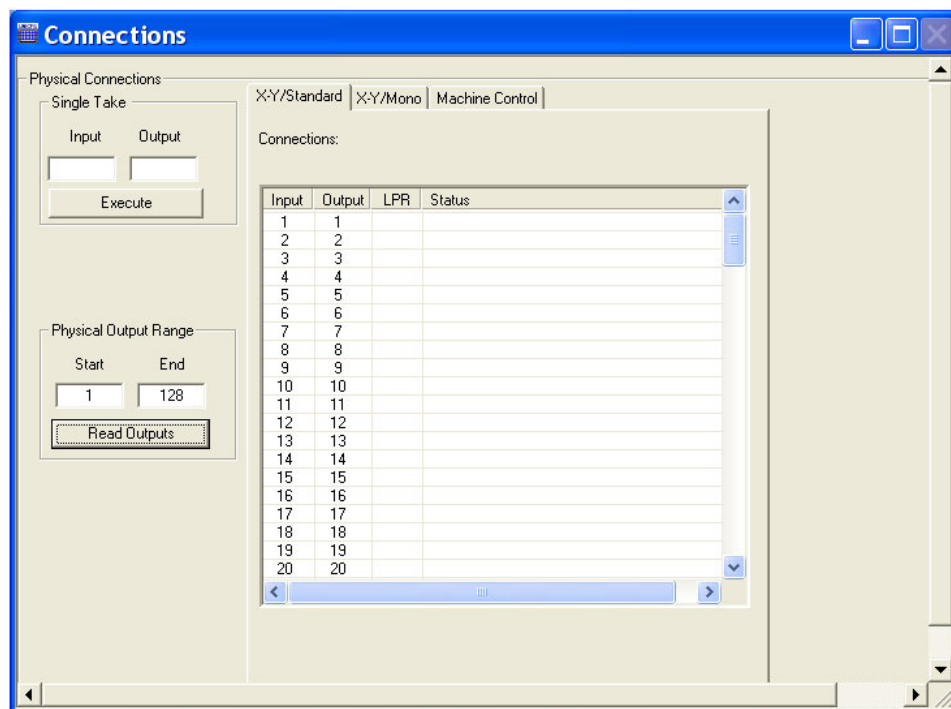

Figure 20-1. Example of Connections Window with Standard Tab in Front
- 3 In the 'Physical Output Range' section, enter a 'Start' and 'End' number in the fields provided and click Read Outputs. The corresponding inputs and outputs display on the tab, as shown in Figure 20-1. The current router switching configuration displays.